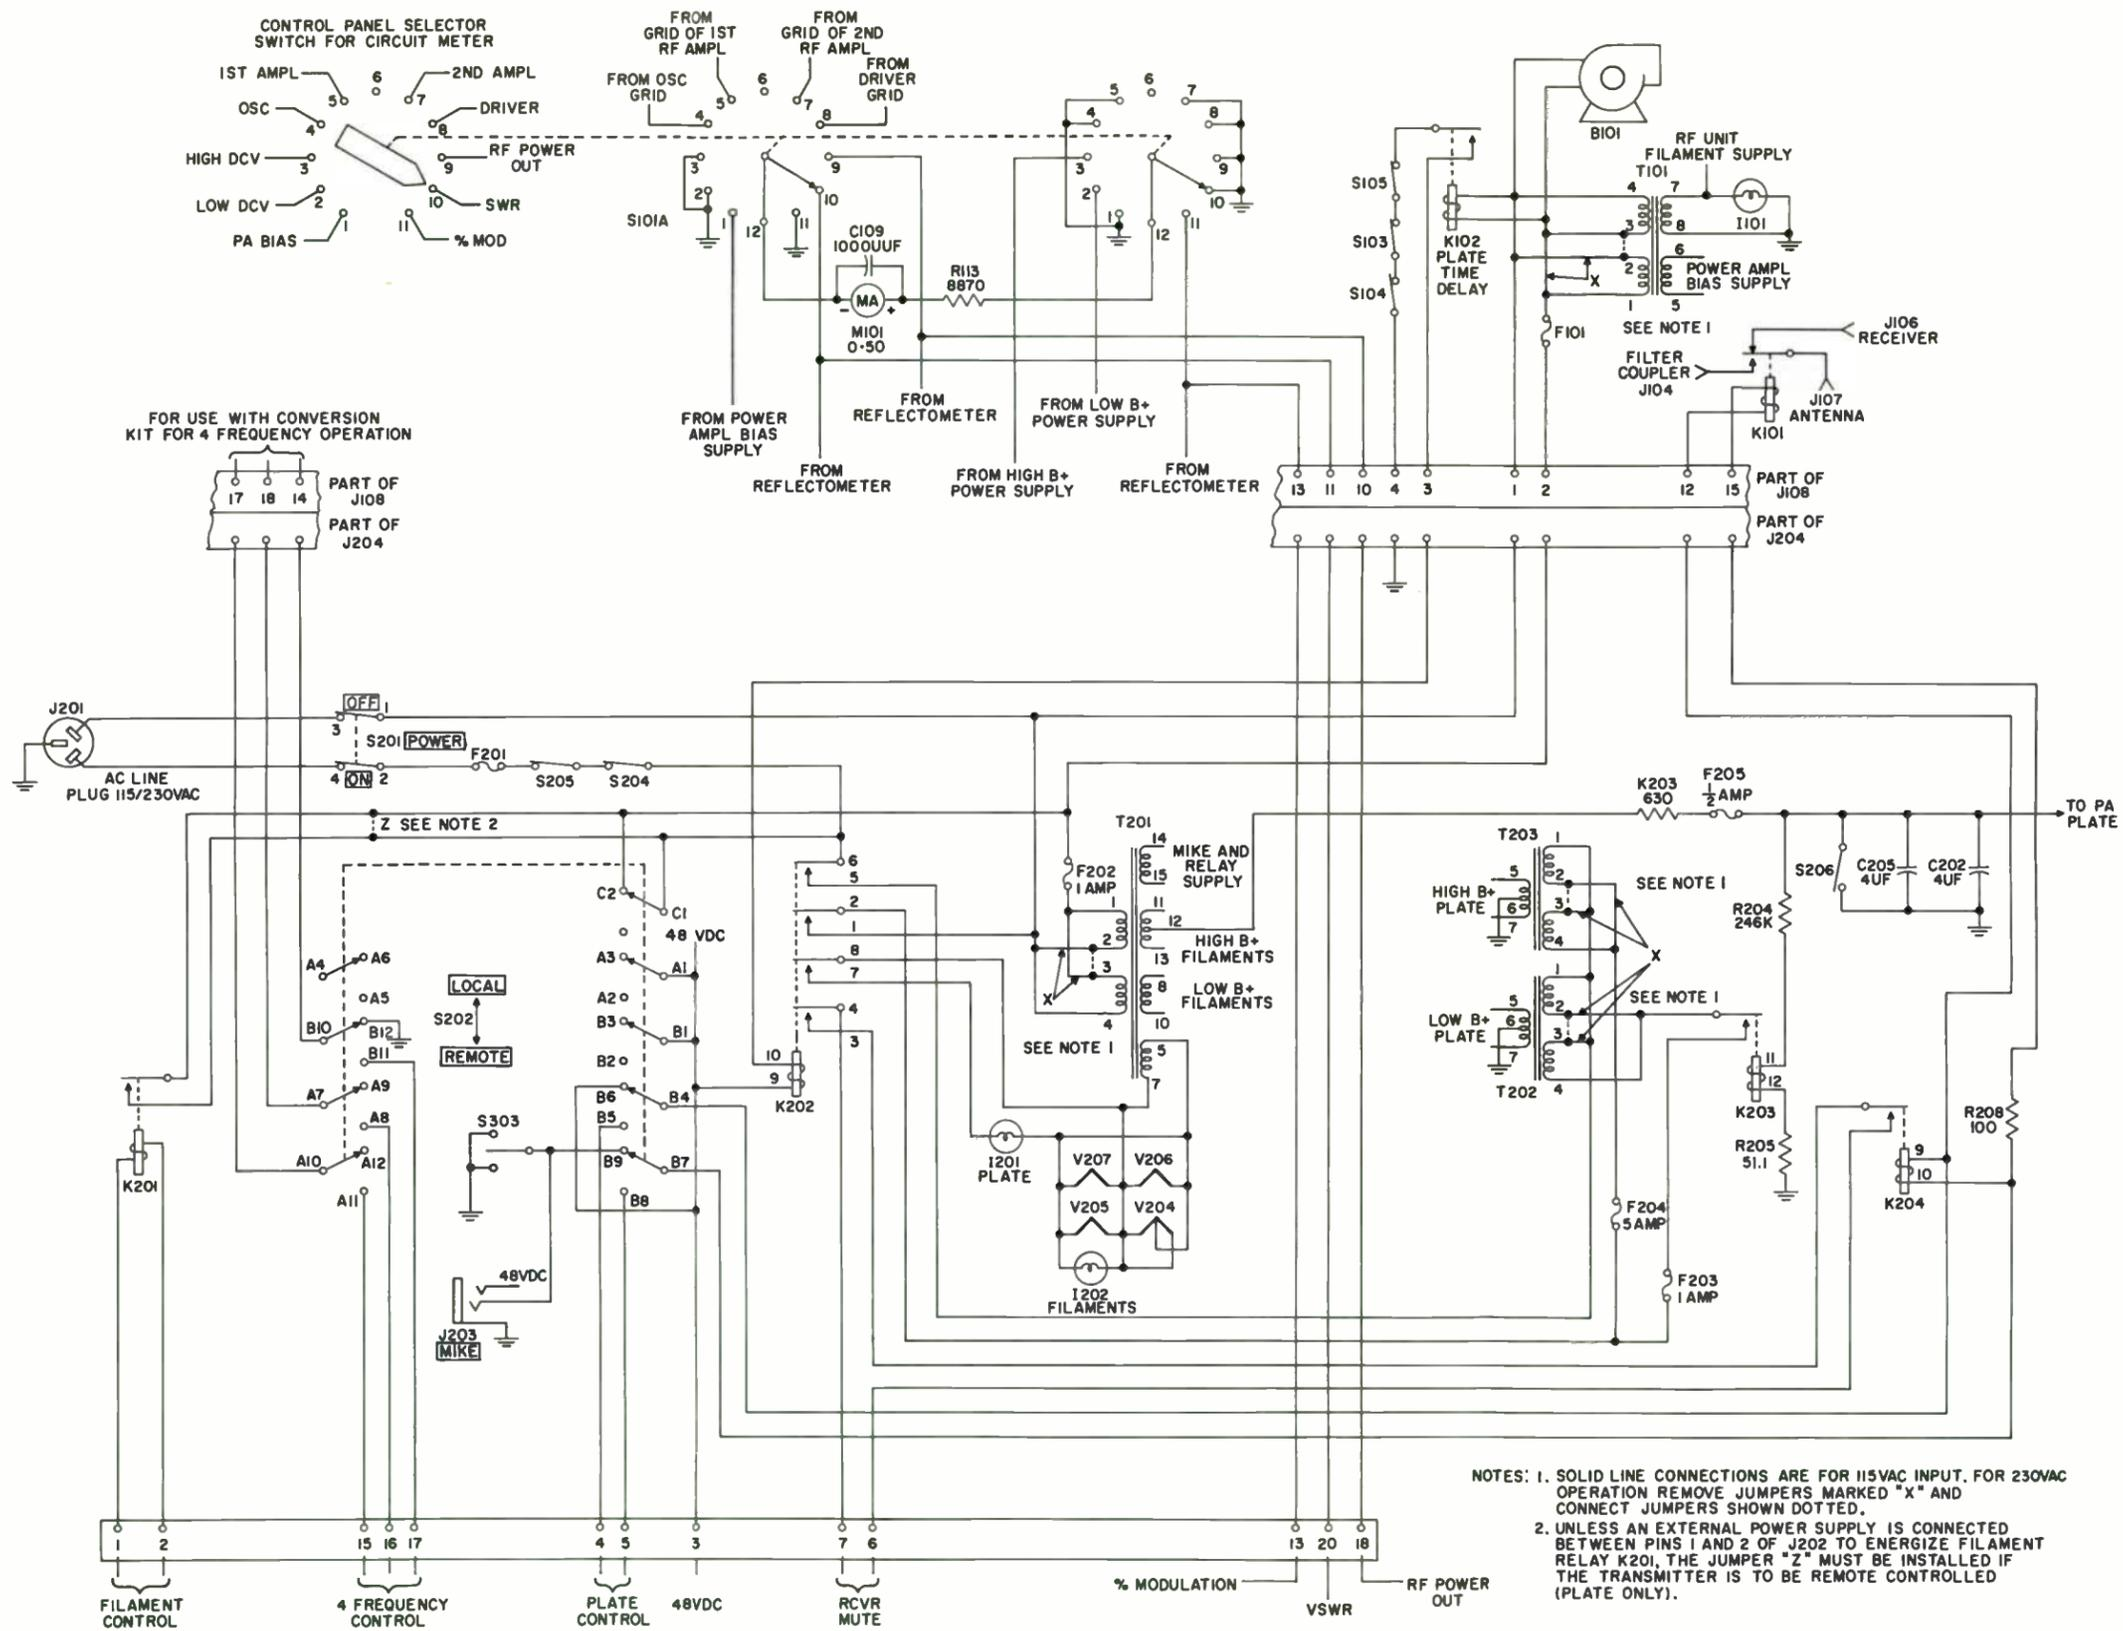

Figure 4-10. Control Circuits
4.3.3.1 POWER DISTRIBUTION. (Refer to figure 4-10.) The a-c line power is connected to the transmitter at J201 and fed through the POWER ON-OFF switch, S201. A three-wire line power cord is used. One leg, the "hot" side of the line, is fused by LINE fuse F201 and passes through front and rear dust cover safety interlock switches S205 and S204. The ground wire is connected to the center pin. The remaining description of the power distribution circuits pertains only to the arrangement provided when the LOCAL-REMOTE switch, S202, is in the LOCAL position. When the POWER ON-OFF switch is closed, line voltage is applied to the primaries of transformers T201 and T101 thus providing power to the r-f unit filaments, power amplifier bias, modulator-power supply unit filaments, the microphone and relay supply, blower B101, plate time-delay relay K102, AC LINE indicator lamp I101, and POWER indicator lamp I202. Transformer T101 is fused by F101, and T201 is fused by F202. Switches S103, S104, and S105 are safety interlock switches for the r-f unit front dust cover, rear dust cover, and output cavity. When any of these switches are opened, all B+ power is disabled. Sixty seconds after application of filament power the contacts of K102 close, and plate control relay K202 is energized. When K202 closes, PLATE indicator lamp I201 comes on; primary power is applied to
Figure 4-10 shows the primary windings of transformers T101, T201, T202, and T203 connected in parallel for 115-volt a-c line voltage. If 230-volt line power is used, the primary windings of these transformers are connected in series. For 230-volt operation, remove all jumpers marked "X," and connect the jumpers shown by dotted lines.
4.3.3.2 REMOTE CONTROL CIRCUITS. (Refer to figure 4-10.) With LOCAL-REMOTE switch S202 in the REMOTE position, control of the transmitter is shifted to jack J202. Remote audio inputs to this jack have been described in paragraph 4.3.2.1.
For remote control of both filament ON-OFF and PTT, an external 48-volt power supply is required. Using the internal d-c supply and installing jumper "Z" in figure 4-10 between the contacts of relay K201 permits remote control of only PTT in the REMOTE position.